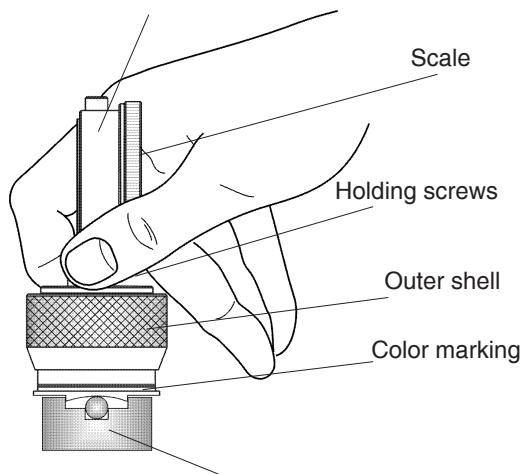

fig. 3.3.1 Zero Test Block Model HP-PT for textile durometer models with concave-shaped base
- Press the durometer down on the optional Zero Test Block (HP-PT) (fig. 3.3.1).